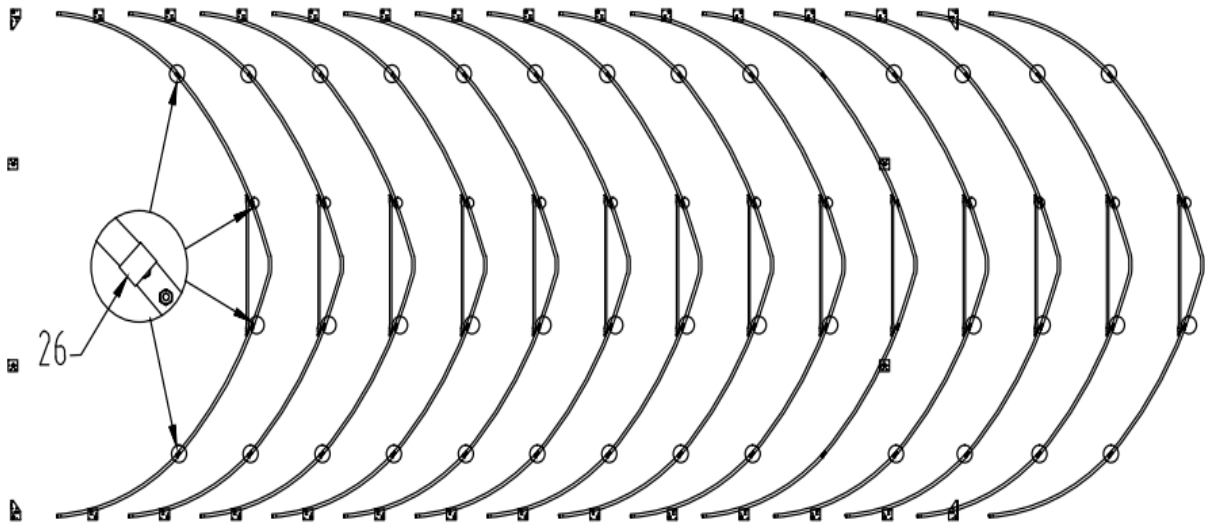

Figure 4
- Lay down all (13) trusses on the ground as Figure 4 when the assembly is all completed and before moving to next step, and then wrap (26) around the sharp points of the joint to avoid friction between the fabric and the interface, resulting in fabric damage (figure 4).
- (3) Scratch resistant tape (#26)